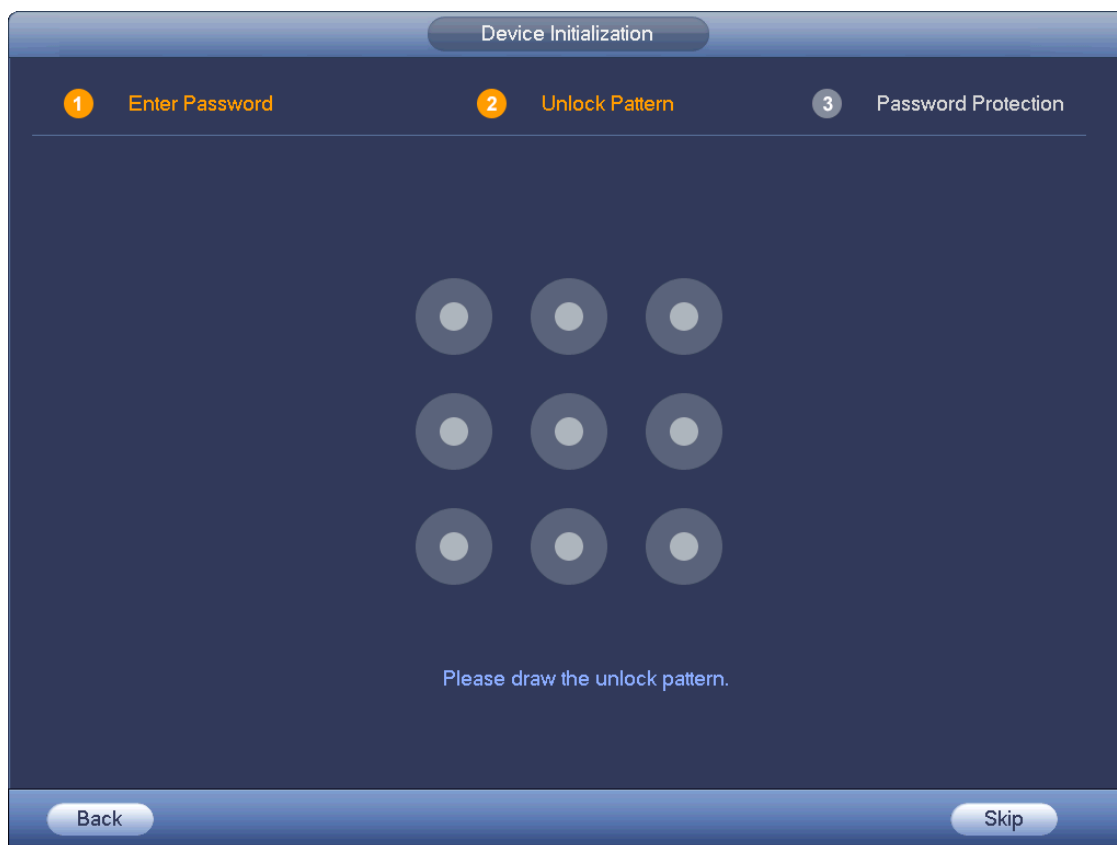

Figure 4-2
Step 3 Click Next, device goes to the following interface. See Figure 4-2.